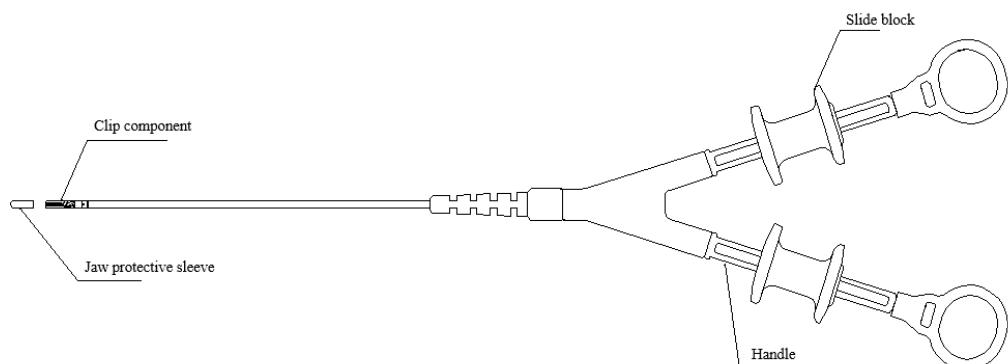

Fig 2 Remove the jaw protective sleeve
A. Remove the jaw protective sleeve of the front end of Disposable Dual Action Tissue Closure Device (as shown in Fig 2), control the two handles with two hands respectively, pull the slide block to the handle ring position and maintain the appropriate tension until the clip is completely closed.